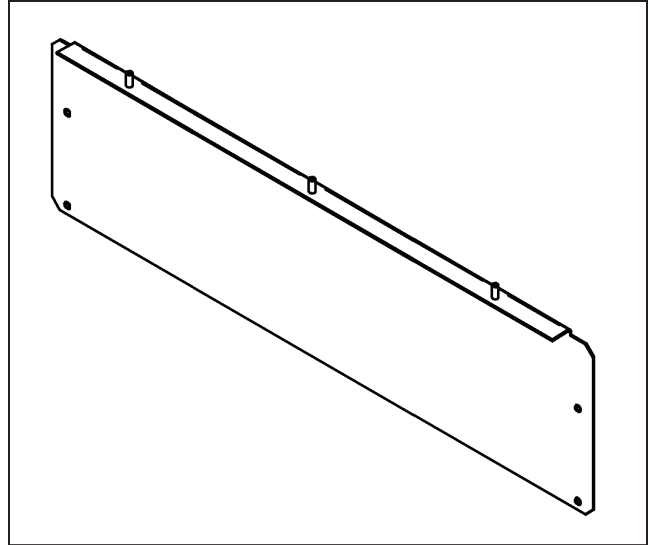
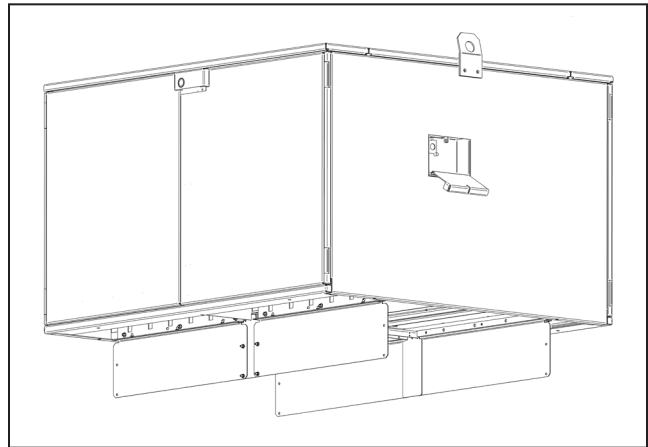
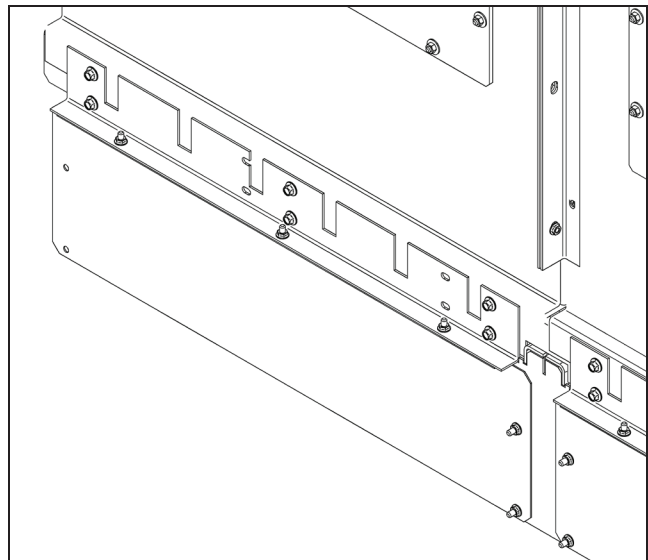

Figure 6. Large deflector.
Figure 7. Deflector assembly.
Figure 8. Close-up of deflector assembly.
- STEP 1.** Bolt one of the large deflectors to the bottom of a switch or fuse compartment frame using the supplied $\frac{5}{16}$ -inch serrated nuts. Refer to Figure 6, Figure 7, and Figure 8. Repeat for the other compartment(s)